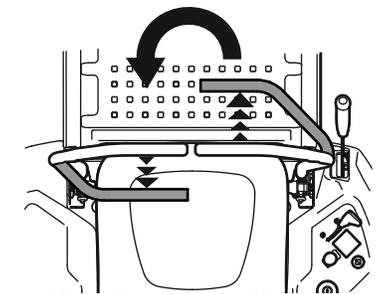

Figure 27
3. To turn counterclockwise, move the lapbar right drive control lever forward while simultaneously moving the left lapbar drive control lever rearward. See Figure 27.